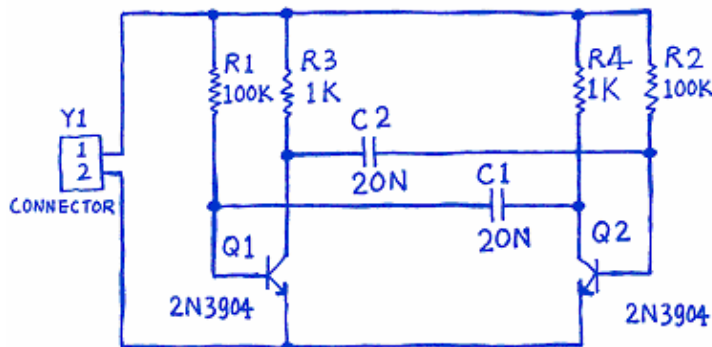

Figure 1. An astable multivibrator
You are now ready to begin capturing (drawing) the schematic. For this tutorial, we will use the circuit shown below (Figure 1). This circuit uses two 2N3904 transistors configured as a self-running astable multivibrator.
The first components we will place on the schematic are the two transistors, Q1 and Q2. For the general layout of the circuit, refer to the schematic drawing shown in Figure 1.
4. If you refer to the schematic diagram (Figure 1) you will notice that Q2 is drawn as a mirror of Q1. To flip the orientation of the transistor that is floating on the cursor, press the **X** key. This flips the component horizontally.
9. Position the resistor above the base of Q1 (refer to the schematic diagram in Figure 1) and left-click or press **ENTER** to place the part.
12. Position and place R3 and R4 as shown in the schematic diagram in Figure 1.